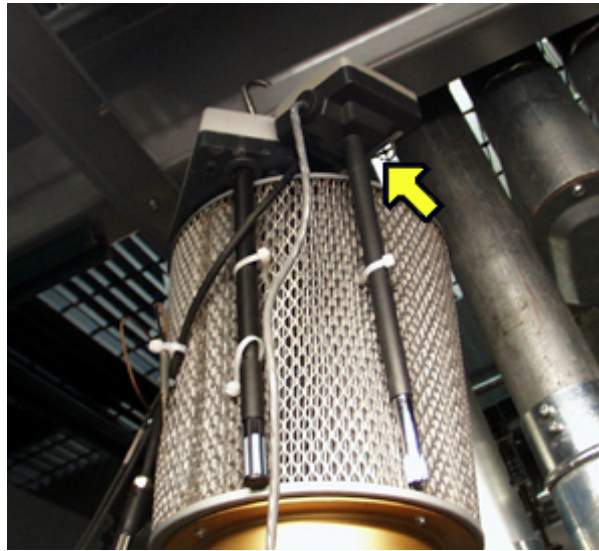

Figure 6
- 109 Attach the Temp/RH sensor to the LFE air intake filter. Ensure that the sensor tip is in the air flow. See the arrow in Figure 6.